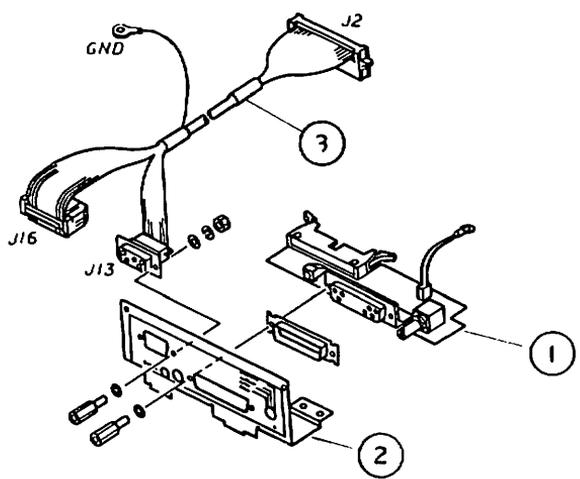

FIGURE 14
**LASERWRITER - MOUNTING CONNECTOR PLATE (Figure 14)**